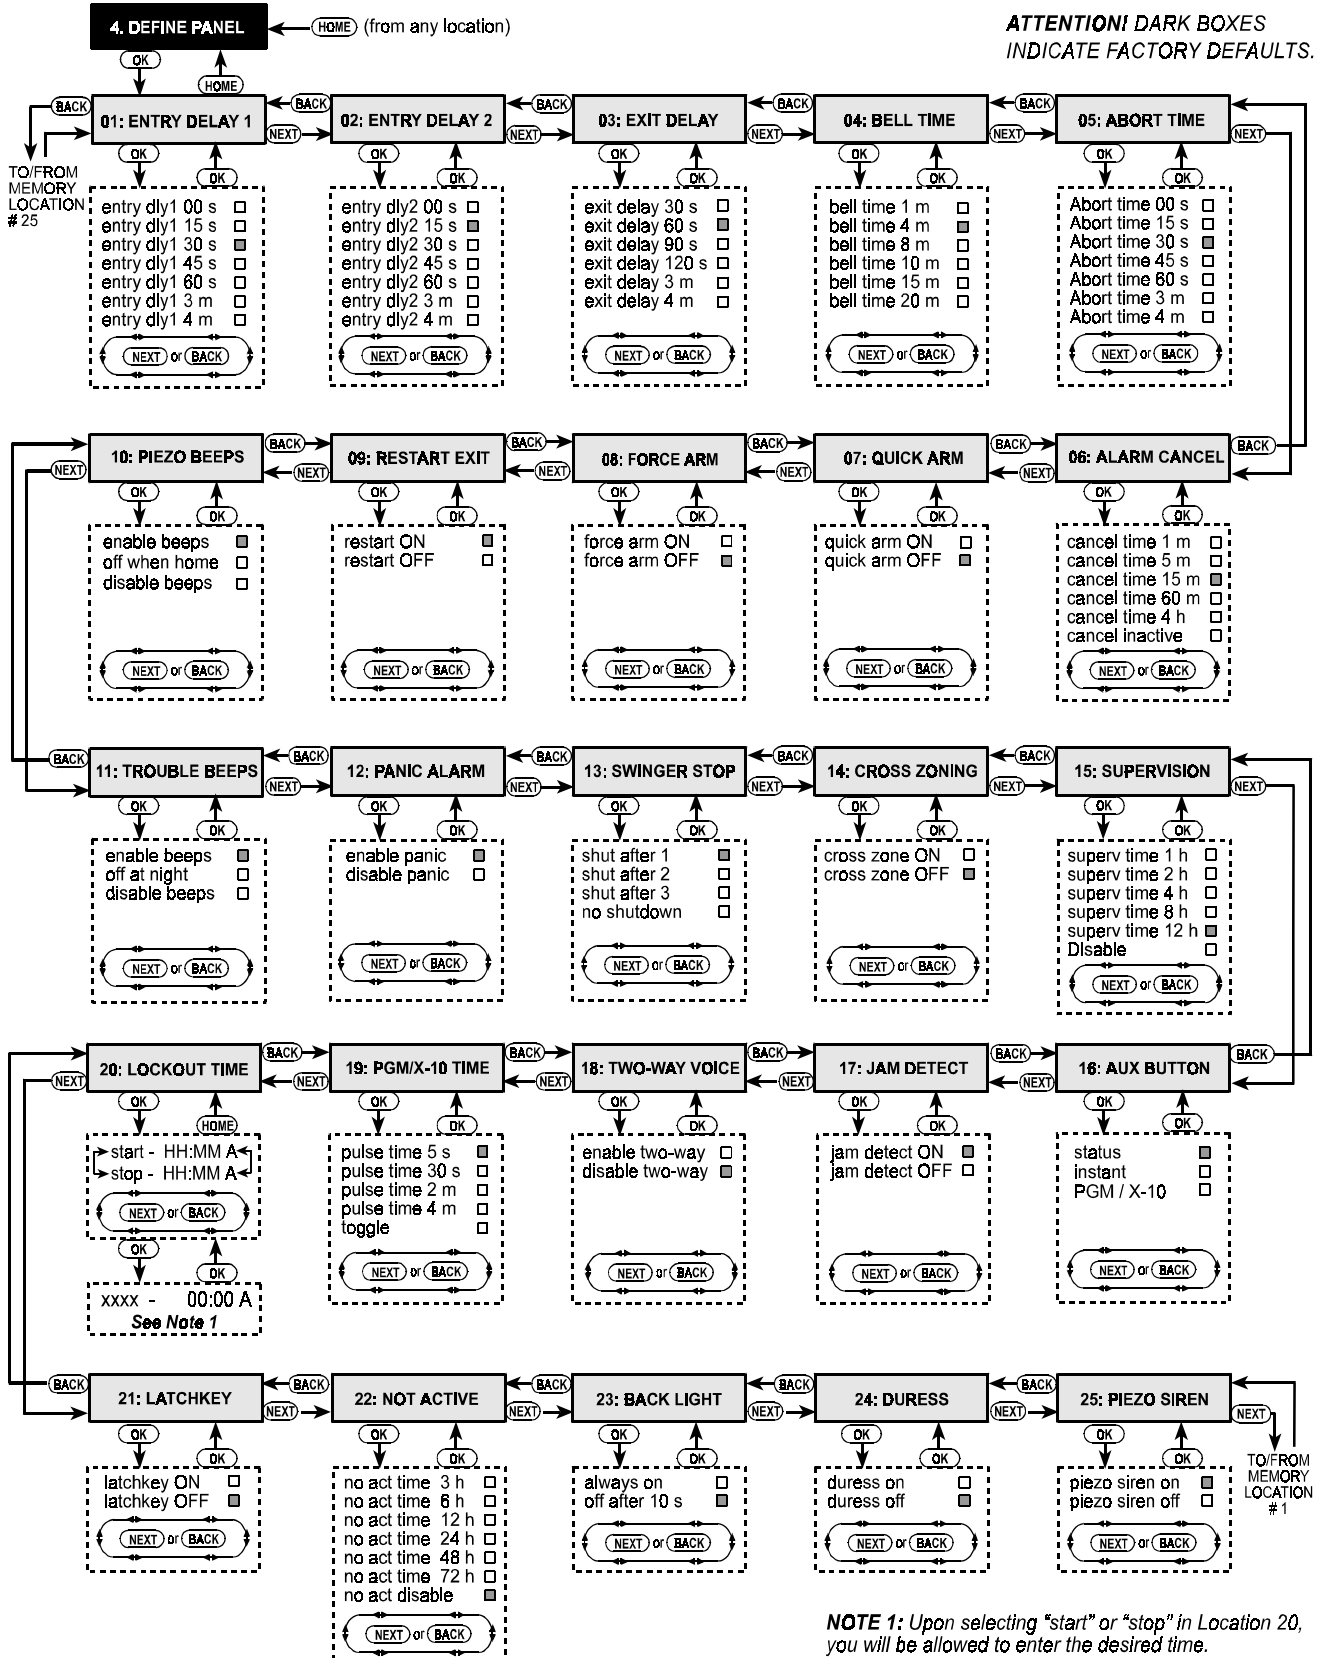

Figure 4. DEFINE PANEL Flow Chart
Should you wish to get an overall view of the entire programming process, refer to the programming chart in Figure 4. You may even use the chart as your only guide along the programming process, instead of going through the written step-by-step procedure.
- Click <NEXT> or <BACK> until you reach the memory location you wish to access (see rectangles 01 to 25 in Figure 4).